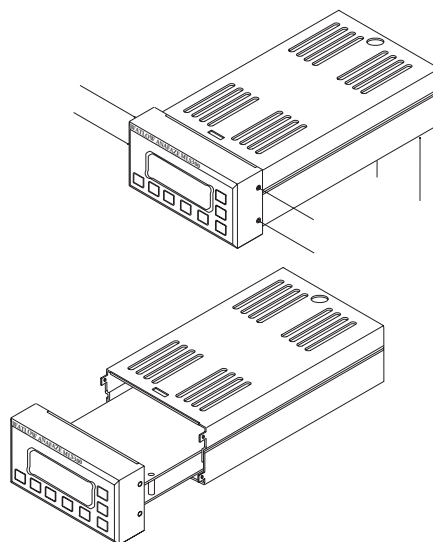
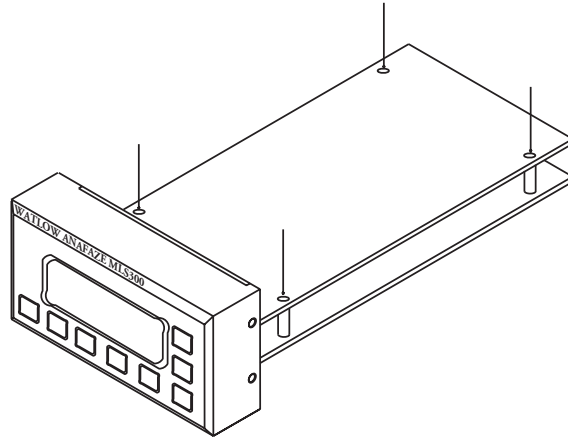

Figure 9.1 *Removal of Electronics Assembly from Case*
Figure 9.2 Screws Locations on PC Board
4. Remove the electronics assembly from the case, as shown in *Figure 9.1*.
board (processor board). *Figure 9.2* shows the screws to remove:
4. Remove the electronics assembly from the case, as shown in *Figure 9.1 on page 204*.
5. Move jumpers **JU2** and **JU4** on the upper PC board to the **B** position for 485 communications, or to the **A** position for 232 communications. Refer to *Figure 9.1 on page 204* and *Figure 9.2 on page 205*.